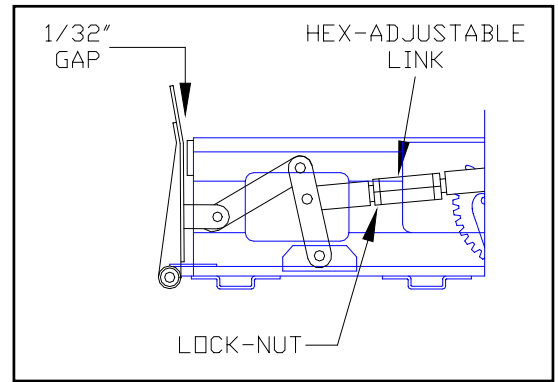

FIGURE 4-5: ROLLSTOP CLOSE ADJUSTMENT
- 4) Refer to **Figure 4-5**. Loosen the lock-nut and adjust the length of the link by turning the center section. Turning the top of the center section toward the platform will shorten the adjustable link and turning it away from the platform will lengthen it. The link must be adjusted so the rollstop closes to within 1/32" of the rubber bumpers.